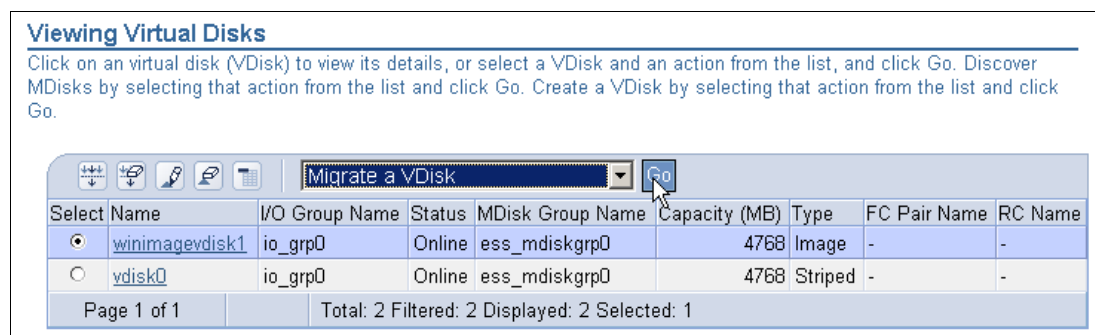

Figure 12-35 Viewing Virtual Disks
1. As shown in Figure 12-35, select the vDisk. Then select **Migrate a vDisk** from the list and click **Go**.